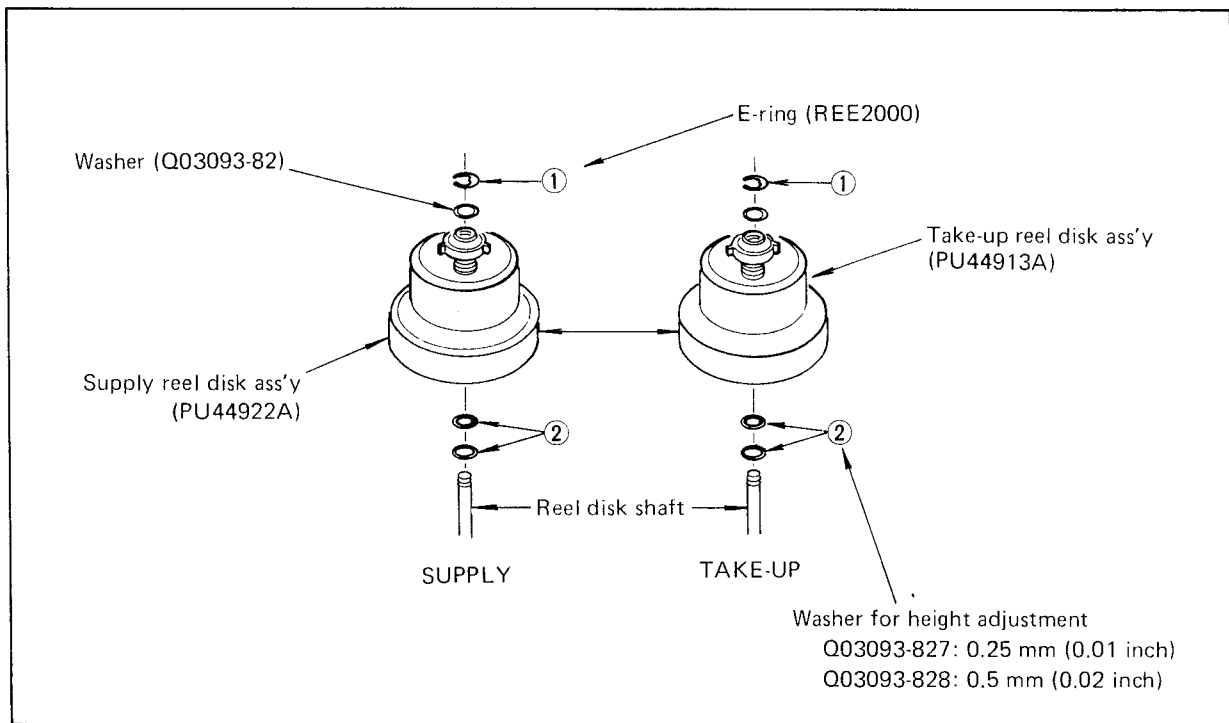

Fig. 5-5 Replacement of reel disk
2. Remove the E-ring ① located in the top portion of the reel disk as shown in Fig. 5-5.